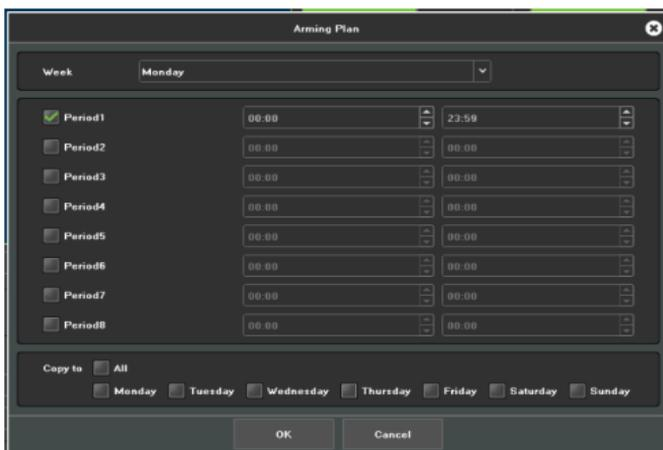

Figure 8.2 Arming Schedule
- Click on the **Setting** button to set the record time, as shown in Figure 8.2.